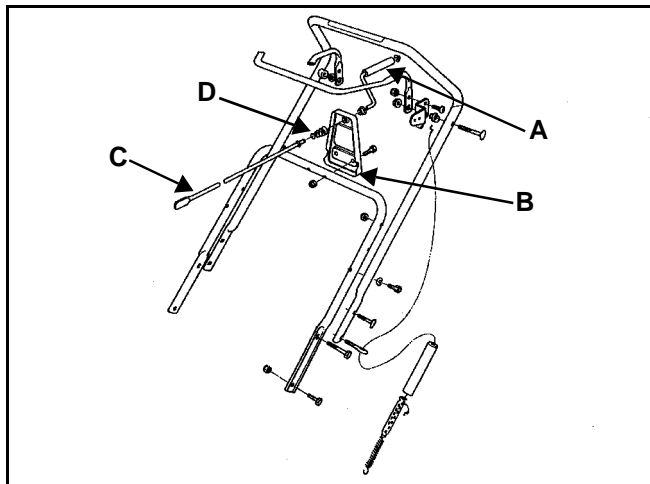

Figure 30 0309-22
2. Remove the 2 bolts and nuts that hold the chute crank rod bracket to the lower handle and draw the rod out of the upper shroud (Figure 30).